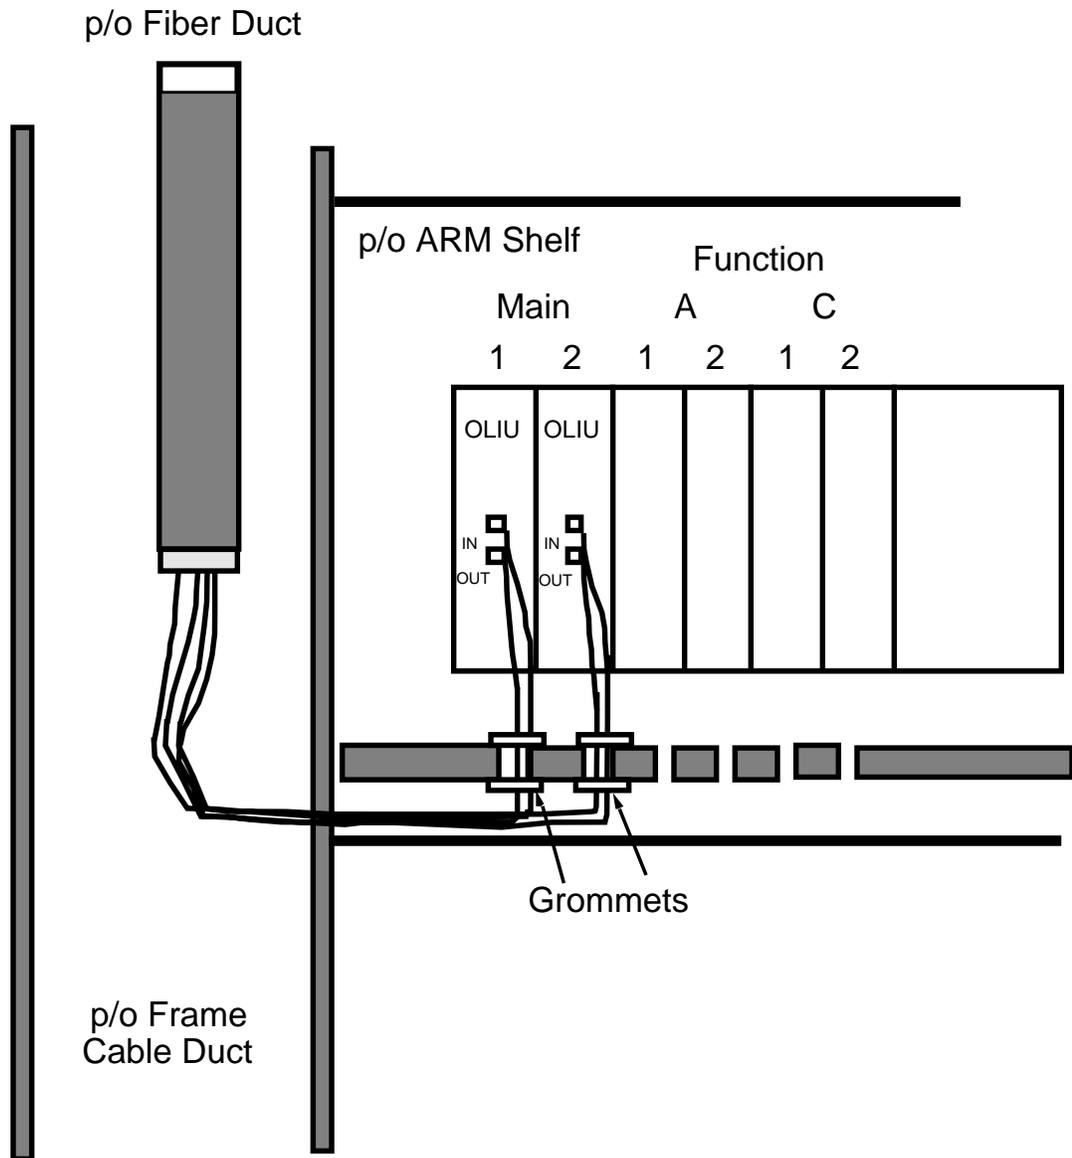

Figure 3-46. Optical Fiber Routing
- Step 2:* Route the fiber in accordance with Figure 3-46. Note the entry is from the left cable duct, under the ARM shelf and through the grommets holes under the associated OLIU. The OLIUs will not be in place at this time so enough slack must be left to reach the terminating points on the units when they are installed.